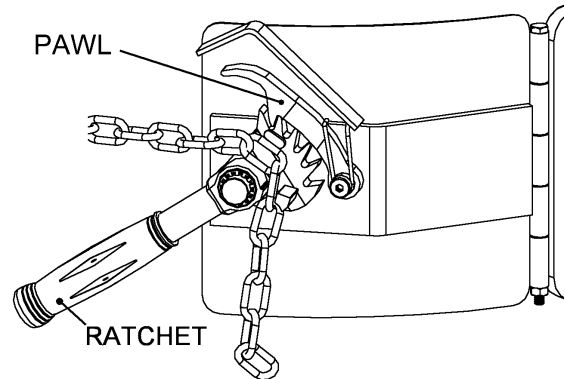

Figure 3.2
3. **Attaching the drum:** Drape the strap across the front of the drum and engage a chain link into the slot in the ratchet (Figure 3.2). Turn the ratchet clockwise to tighten strap. If ratchet turns until the pawl is beyond the last ratchet tooth, turn the ratchet back and slide the next link into the ratchet slot and try tightening again. The strap must be held tightly against the drum with the pawl engaged securely in the ratchet teeth.